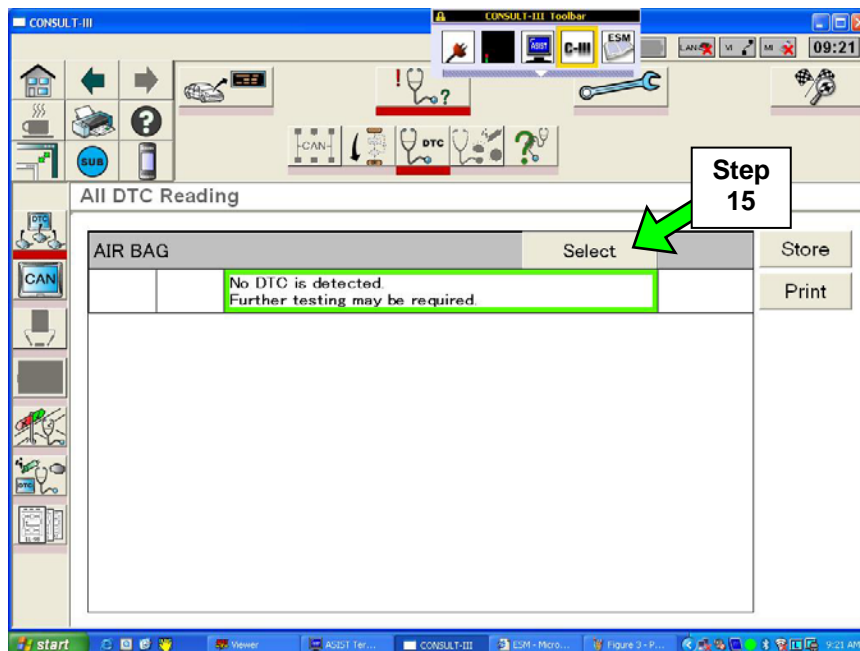

Figure 4
15. Make sure no air bag DTCs are stored, and then select **Select** (see Figure 4).